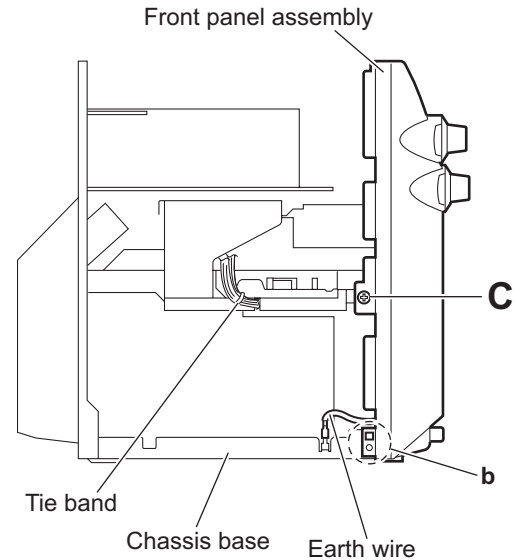

Fig.6
(4) From the left side of the main body, remove the tie band bundling the wires. (See Fig.6.)
After reassembling, bundle the wires with the new tie band as before. (See Fig.6.)
(5) Disconnect the earth wire from the chassis base. (See Fig.6.)